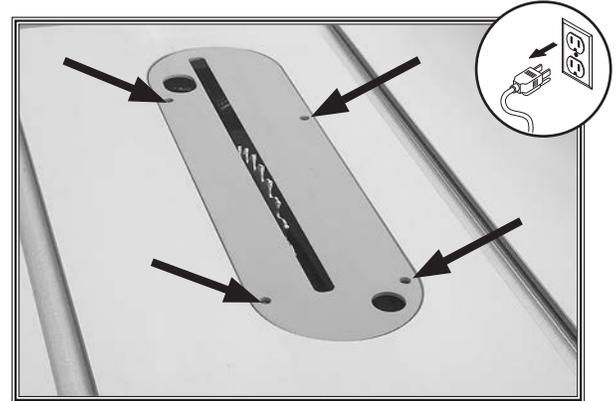

Figure 120. Location of table/dado insert holes with adjustment screws.
The table/dado insert must sit perfectly flush with the table to provide a smooth, continuous surface for the workpiece to slide over. The insert is held in place by a magnet and sits on top of four adjustment screws (see **Figure 120**).
3. Insert hex wrench through holes shown in **Figure 120**. Loosen screws to raise insert, or tighten screws to lower it.